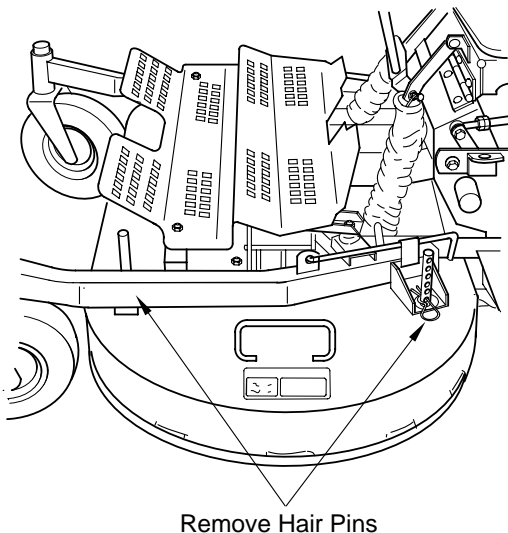

Figure 4-13 Adjusting Cutting Height
2. Remove the two hairpins from the adjusting pins on one side of the cutter deck (Figure 4-13).